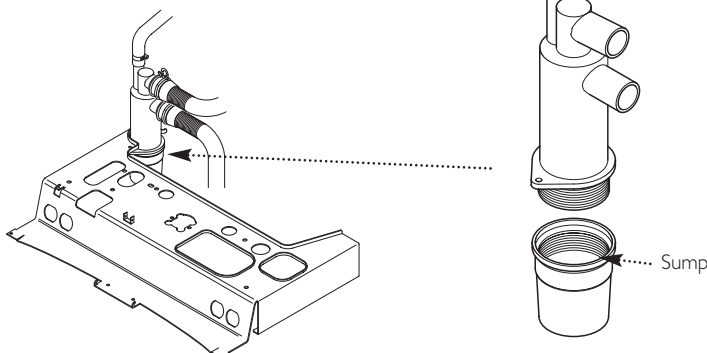

Fig. 75
7. Unscrew the sump from the bottom of the condensate trap assembly (Fig. 75).